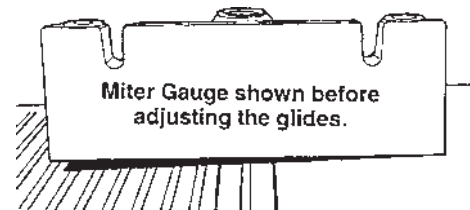

Figure B-80
48. Place the miter gauge in the worktable's miter gauge slot. See Figure B-80.